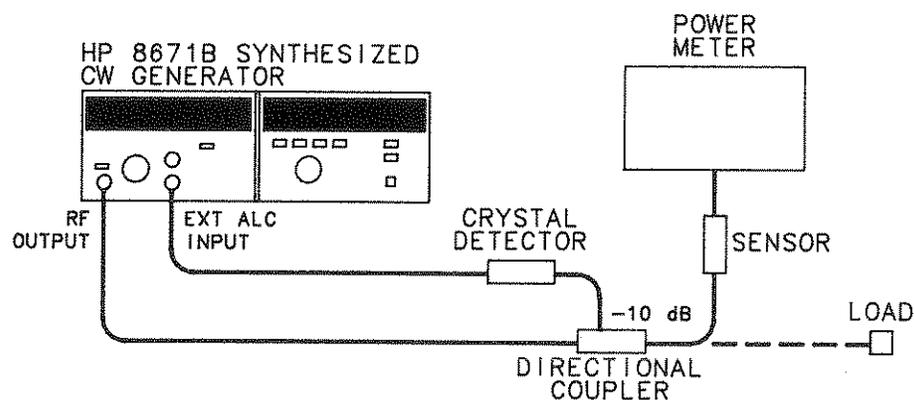

Figure 3-3. External Leveling with a Crystal Detector
1. Connect the crystal detector and the 10 dB coupler as shown in Figure 3-3.